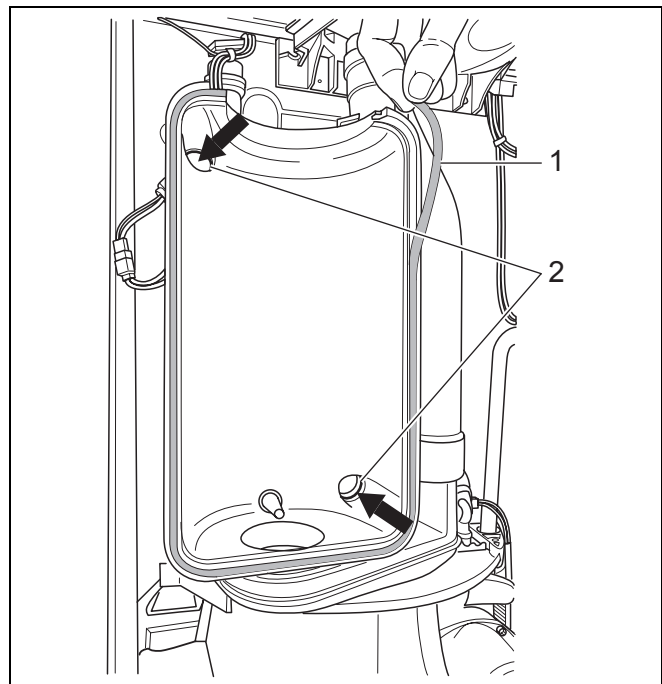

fig. 58 Replace the seal of the heat exchanger
- Seal heat exchanger (→ fig. 58),